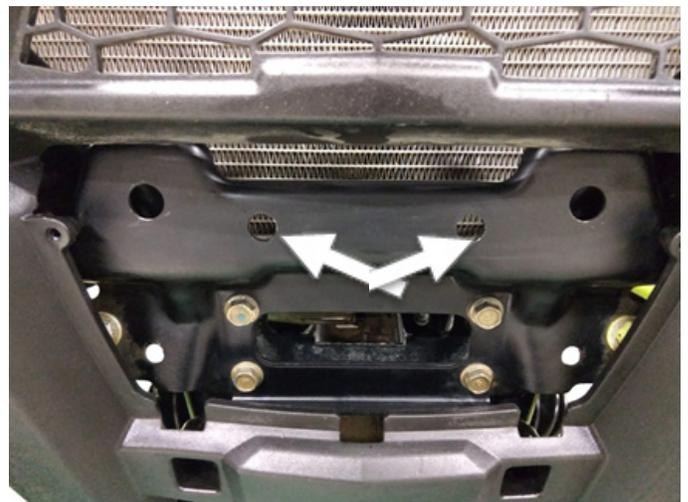

Figure 5
6. Using a drill with a 1/2" bit, enlarge the two (2) inner holes in the upper mounting flange. (Figure 5)